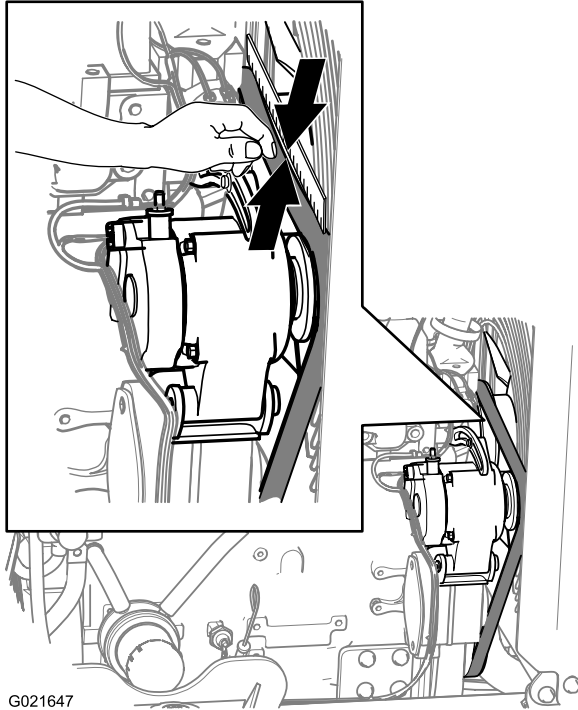

Figure 144
3. Inspect the belt for cuts, cracks, loose cords, grease, oil, twisting, or signs of abnormal wear (Figure 144).
3. Align a straight edge over the drive belt and across the pulleys as shown in Figure 144.
4. Press the belt down at the midway point between the fan pulley and the alternator pulley as shown in Figure 144.